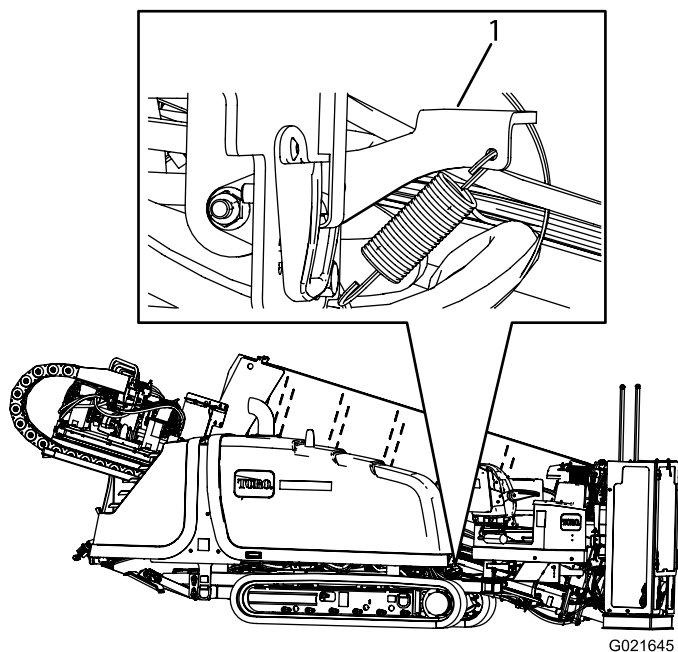

Figure 93
2. Push down on the hood latch as shown in Figure 93.